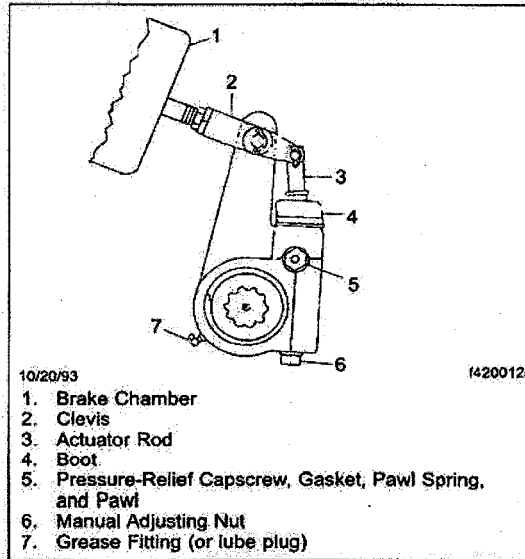
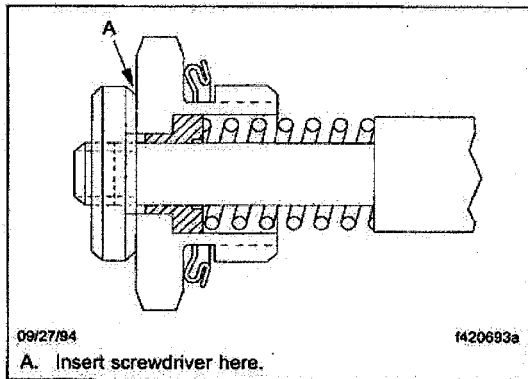

Fig. 11.18, Meritor Automatic Slack Adjuster
Fig. 11.19, Pull-Pawl Assembly (sectional view)
If the free-stroke is incorrect, remove the pressure-relief capscrew, spring, and pawl assembly (Fig. 11.18) from the slack adjuster housing. If equipped with a pull-pawl assembly (Fig. 11.19), carefully insert a screwdriver and raise the relief cap about 1/8 inch (3.2 mm).
- If the brake chamber stroke is incorrect, remove the pressure-relief cap screw, spring, and pawl assembly (Fig. 11.18) from the slack adjuster housing. If equipped with a pull-pawl assembly (Fig. 11.19), carefully insert a screwdriver and raise the relief cap about 1/8-inch (3.2 mm).